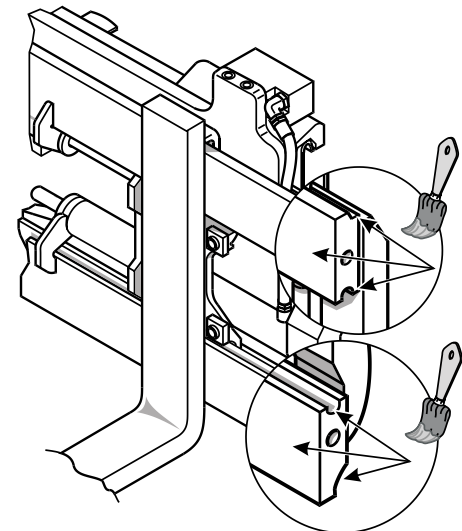

Figure 4-38 Fork Positioner, Non-Side Shifting
4. Using a brush, lubricate the shaded areas on the fork rails, including a thin film on the front face of both rails (See Figure 4-38).